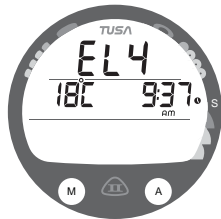

Fig. 77 - GAUG SURF ALT
- Depress the A button for 2 seconds to the GAUG SURF ALT screen (Fig. 77 - Altitude, Temperature, Time of Day).